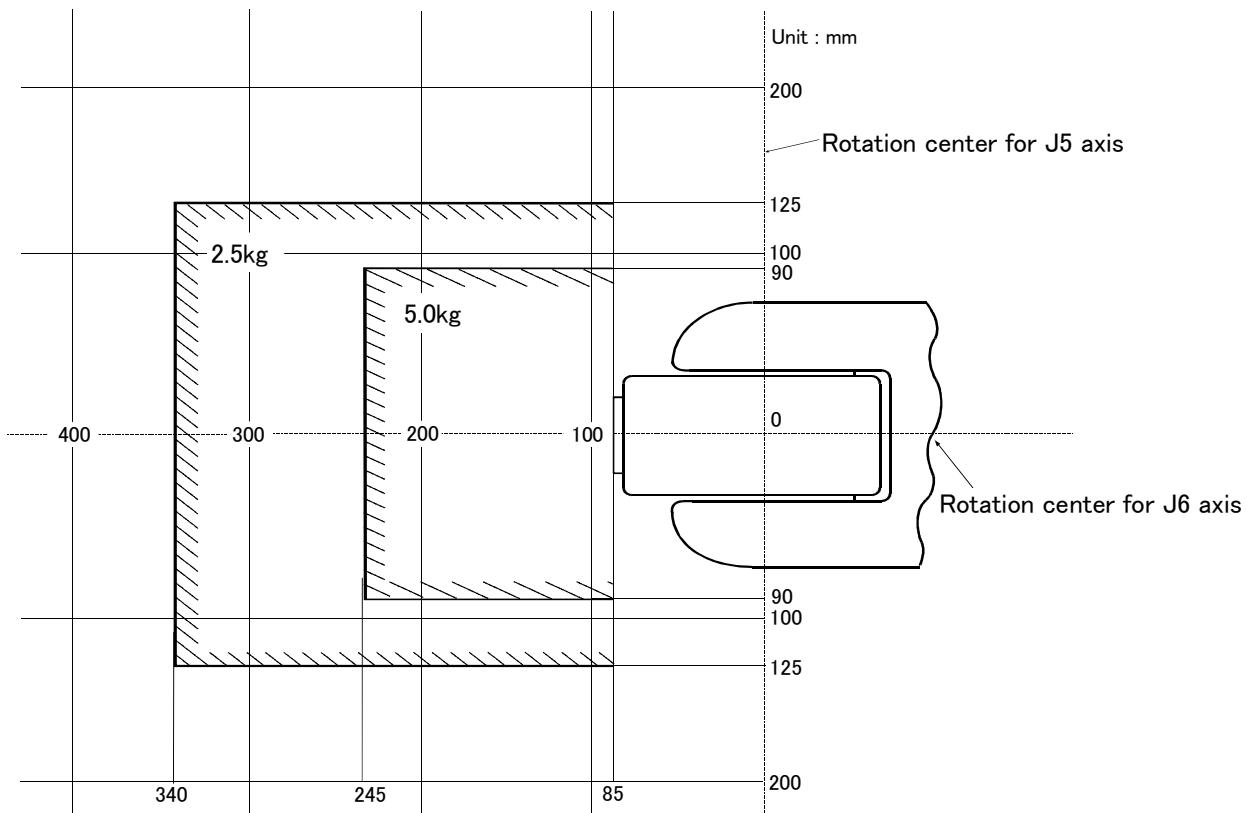

Fig.2-2 : Position of center of gravity for loads (for loads with comparatively small volume):RV-6S/6SL Series
- (1) The tooling should have the value less or equal than the smaller of the tolerable inertia and the tolerable moment found in Page 6, "Table 2-1 : Tab Standard specifications of robot"
- (2) Fig. 2-2 shows the distribution dimensions for the center of gravity in the case where the volume of the load is relatively small. Use this figure as a reference when designing the tooling.
- (3) When the load is not mass, but force, you should design the tooling so that it does not exceed the value for allowable moment described in Page 6, "Table 2-1 : Tab Standard specifications of robot"